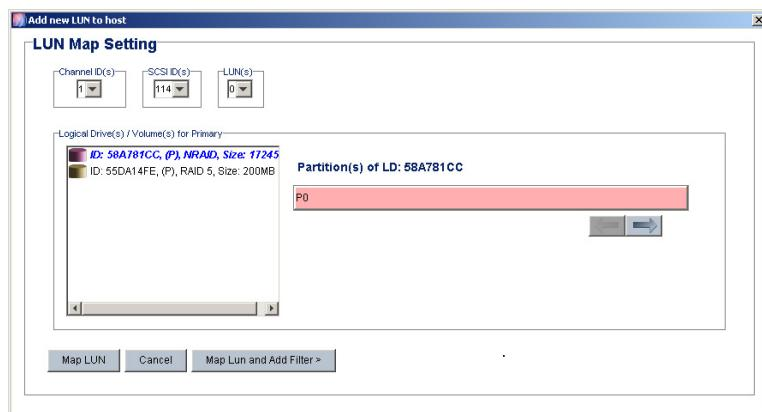

Figure 10-3: LUN Map Setting Window
Step 3. After selecting the ID, the **LUN Map Setting** window appears as shown in *Figure 10-3*.
Step 2. Follow the steps listed in *Section 10.1* above to access the **Host LUN Mapping** window shown in *Figure 10-3*.
**Step 2.** Follow the steps listed in *Section 10.1* above to access the *LUN Map Setting* window shown in *Figure 10-3*.